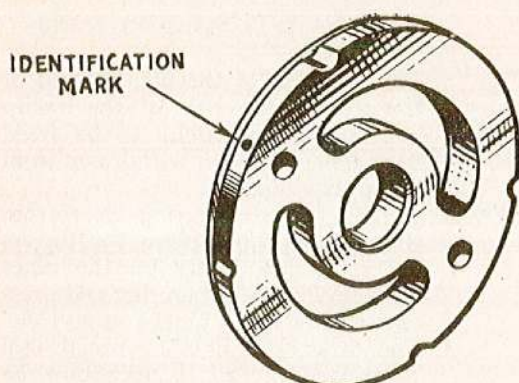

Fig. 9. Identification mark on port insert
4. Examine the port insert. *The insert must not be removed unless damage is suspected, and if removal is necessary note carefully its position in the pump housing.* Later types of port insert are marked on their periphery with a dot adjacent to the dowel pin hole. If inserts are not marked in this manner they should be marked immediately on removal (fig. 9). By this means the correct replacement of the port insert is assured, the inlet and outlet ports being in alignment with the corresponding inlet and outlet passages in the pump housing on reassembling.